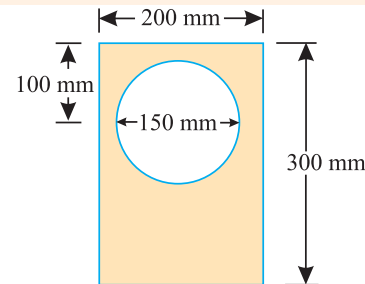

Fig. 7.18.
**Example 7.14.** Find the moment of inertia of a hollow section shown in Fig. 7.18. about an axis passing through its centre of gravity or parallel X-X axis.